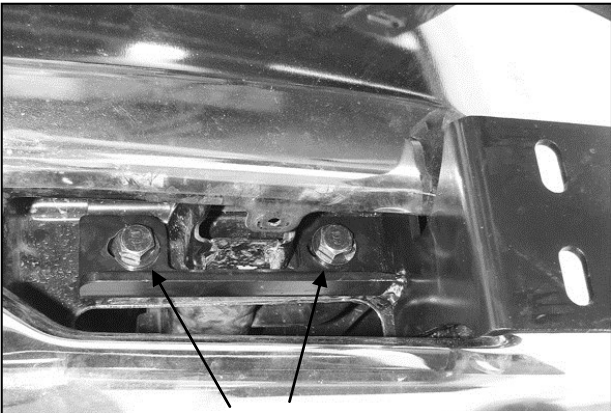

Fig 5
4. Drive the (2) carriage bolts in the bumper bracket out of the bracket by striking the end of the bolts with a hammer, (Figure 4). Discard the tin retaining washers. Insert the driver side Mounting Bracket into the opening in the front of the bumper and line up the (2) mounting holes with the holes in the bumper bracket. For vehicles without tow hooks re-use the factory carriage bolts and nuts to secure these brackets. For vehicles with tow hooks they must be replaced with the supplied (2) M12 x 60mm Hex Bolts and (2) M12 Flat Washers through the driver side Frame Mounting Bracket and bumper bracket (the factory nuts will be re-used) (Figure 5). Re-install the factory tow hook before attaching the nuts. Attach all hardware loosely.